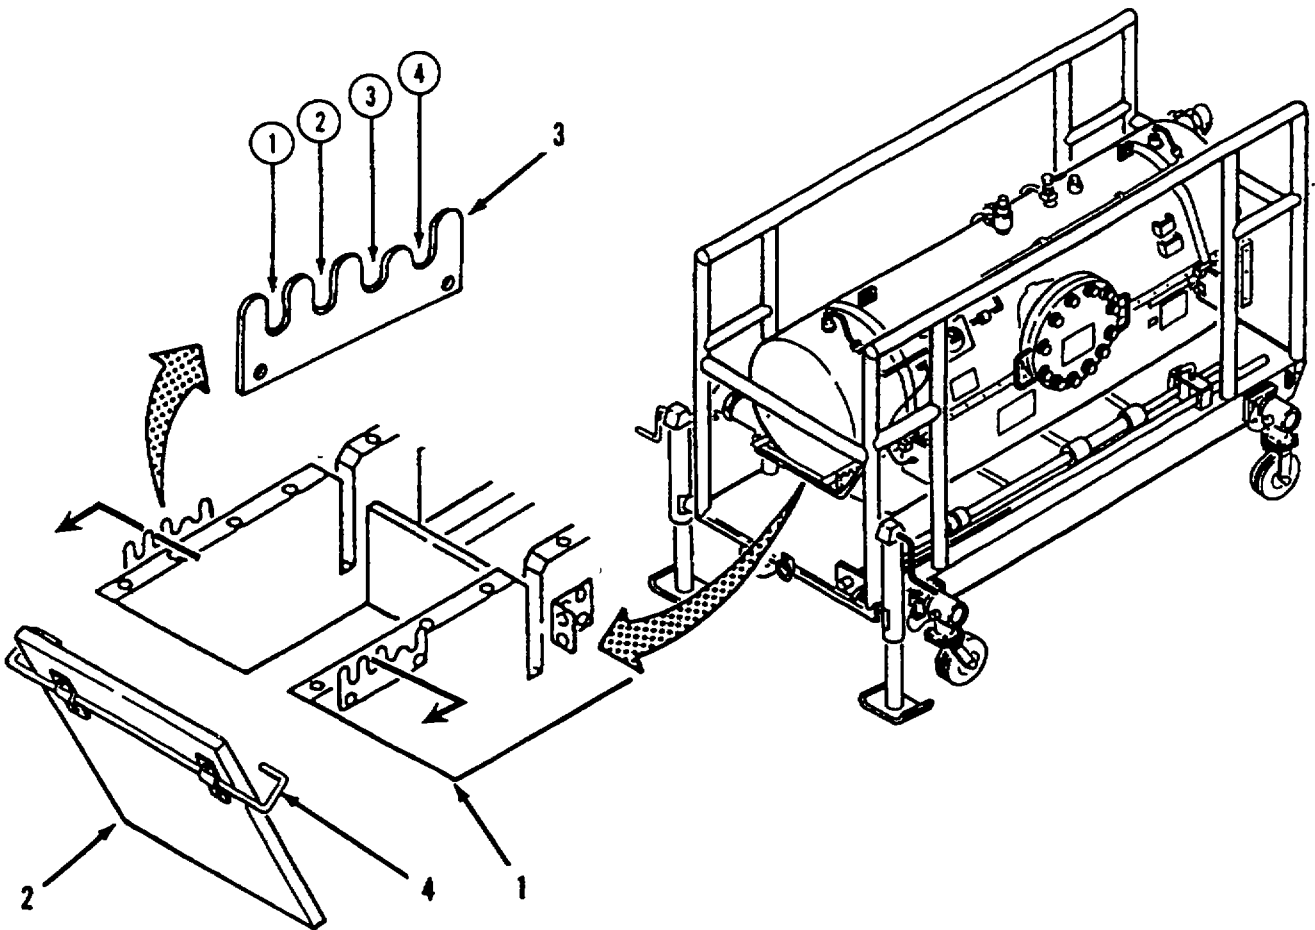

Figure 2-19. Heat Adjusting.
- f. Heat Adjusting (Refer to Figure 2-19). When the defrost shroud (1) is used to prevent water freezing in the filter-separator sump, heating from the system pump is adjusted by positioning the defrost door (2) on the shroud.